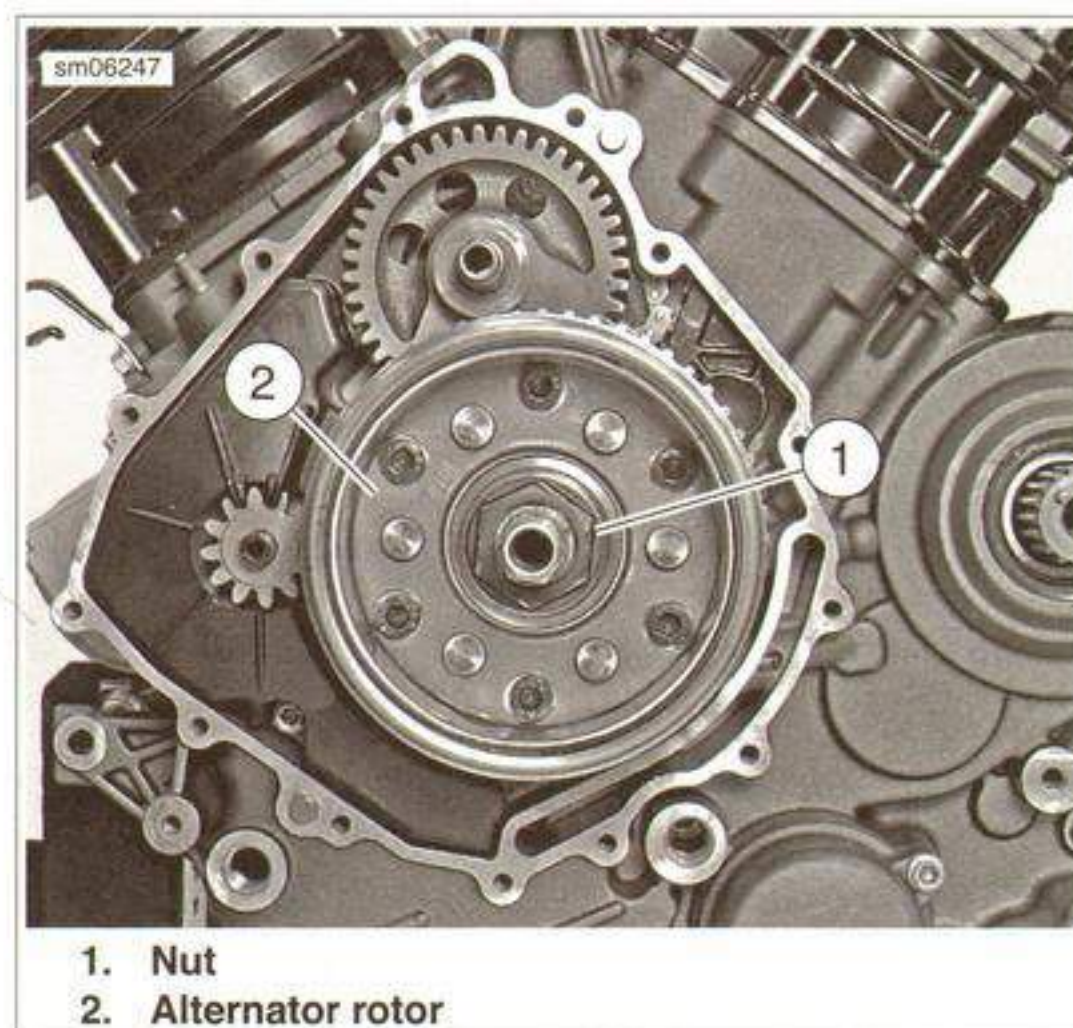

Figure 3-168. Ignition
4. See Figure 3-168. Remove nut (1) and alternator rotor (2). See 7.10 ALTERNATOR.